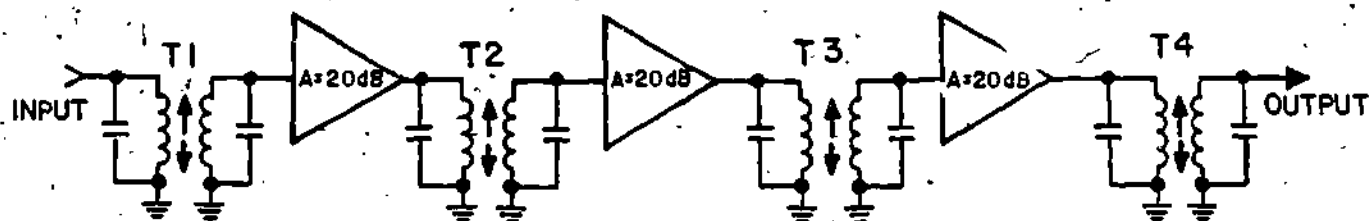

Figure 14
15. IF amplifiers are usually found connected together in series to perform their function in a receiver or transmitter. In other words, the output from one IF amplifier stage becomes the input into the next stage. You recall from your study of decibels that amplifiers connected in series, or cascaded, can produce a very high total gain. An example of three cascaded amplifiers is shown in Figure 14.